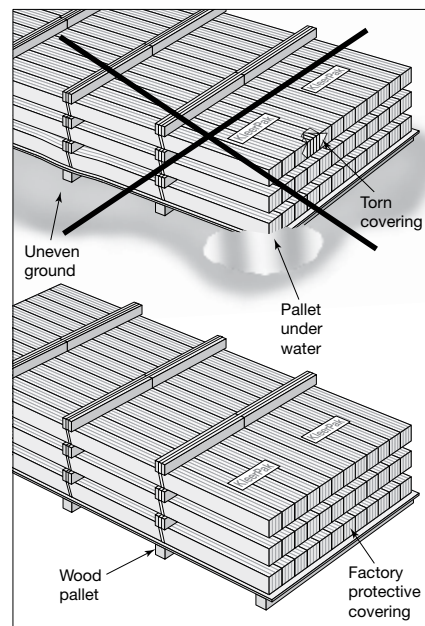

Fig. 1
- Kleer is more flexible than wood. When possible, Kleer should be stored on a flat, level surface and handled with extra care to avoid damage (**Fig. 1**).
- Kleer is shipped from the manufacturing plant in either KleerPak plastic wrap or woven covers to protect it from dirt and debris until installed. If dirty, clean with a soft brush and mild household cleaner. Stubborn stains may be removed with denatured alcohol (**Fig. 1**).